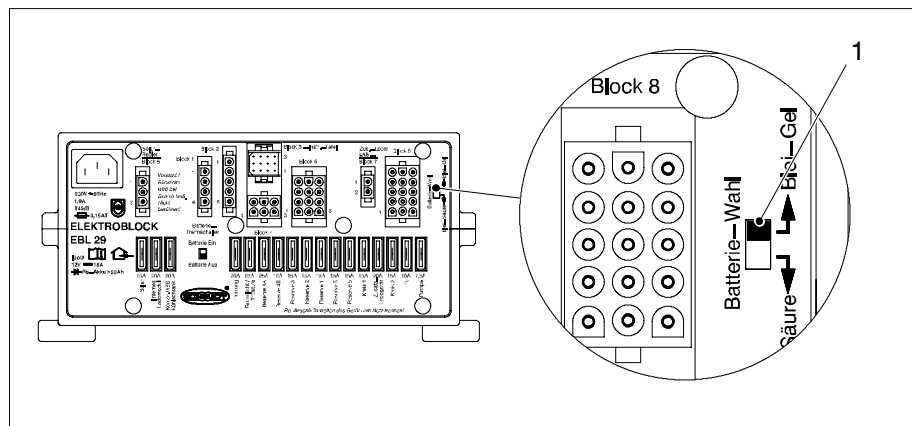

Fig. 1 Battery selector switch
- ▶ Move the battery selector switch (Fig. 1, Pos. 1) to the correct position using a thin object (e.g. a ballpoint pen):